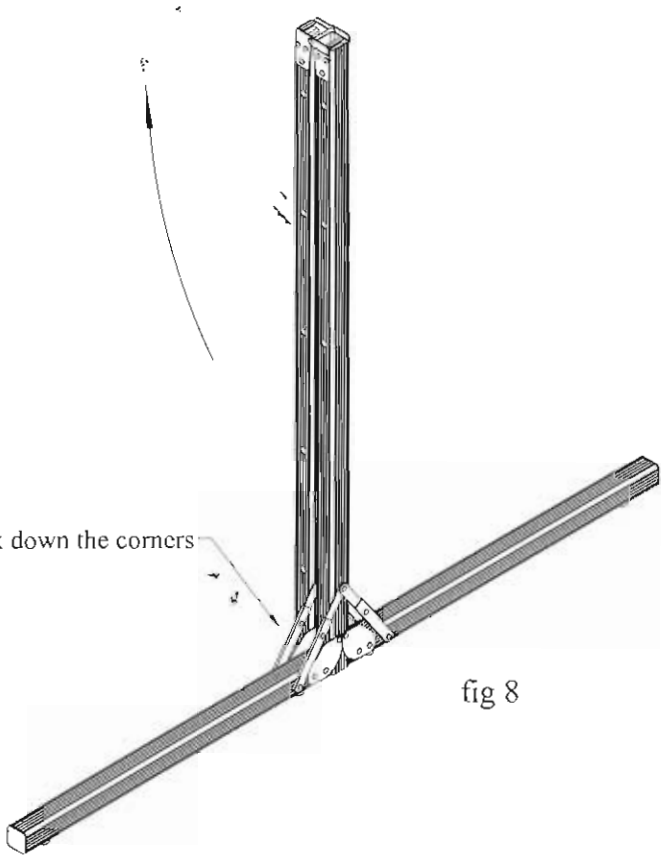

fig 8
2. Unfold the T-leg following the directions given below, Lock down all four corner braces (as fig 8).